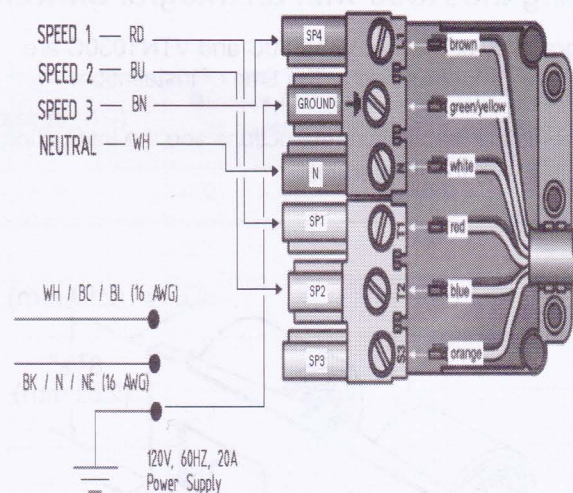

Figure 23: Wiring the Hood with an Inline Blower
- Lost or missing wire nuts should only be replaced with spring type wire nuts, rated for a minimum of two (2) #18 gauge wires and maximum of four (4) #14 gauge wires, UL & CSA rated to 600V and 302°F (150°C).
7. Run five (5) wires (#14 AWG) in 1" (25.4 mm) conduit from the inline blower to the second conduit connector.
8. Connect the inline blower to the pigtail wires as per *Figure 23*. Connect the inline blower green (ground) wire to the ground screw in the junction box.